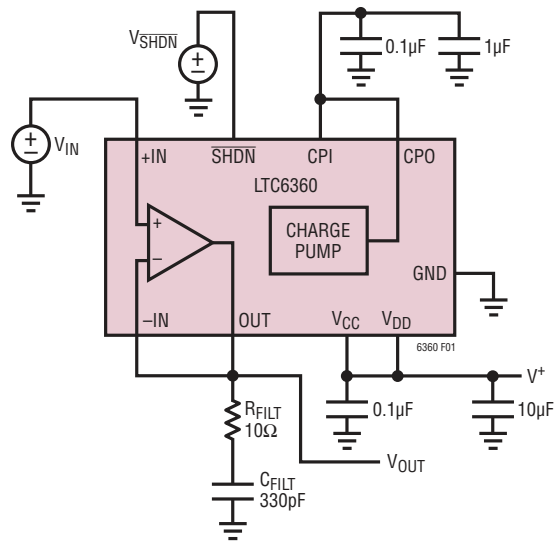

Figure 1. Test Circuit
## TYPICAL PERFORMANCE CHARACTERISTICS $T_A = 25^{\circ}\text{C}$ , $V_{\text{CC}} = V_{\text{DD}} = 5\text{V}$ , $V_{+\text{IN}} = 2\text{V}$ , $V_{\text{SHDN}} = 5\text{V}$ , see Figure 1 for circuit configuration.
## TYPICAL PERFORMANCE CHARACTERISTICS $T_A = 25^\circ\text{C}$ , $V_{CC} = V_{DD} = 5\text{V}$ , $V_{+IN} = 2\text{V}$ , $V_{SHDN} = 5\text{V}$ , see Figure 1 for circuit configuration.
**TYPICAL PERFORMANCE CHARACTERISTICS**  $T_A = 25^\circ\text{C}$ ,  $V_{CC} = V_{DD} = 5\text{V}$ ,  $V_{+IN} = 2\text{V}$ ,  $V_{SHDN} = 5\text{V}$ , see Figure 1 for circuit configuration.
$T_A = 25^\circ\text{C}$ ,  $V_{CC} = V_{DD} = 5\text{V}$ ,  $V_{+IN} = 2\text{V}$ ,  $V_{SHDN} = 5\text{V}$ , see Figure 1 for circuit configuration.